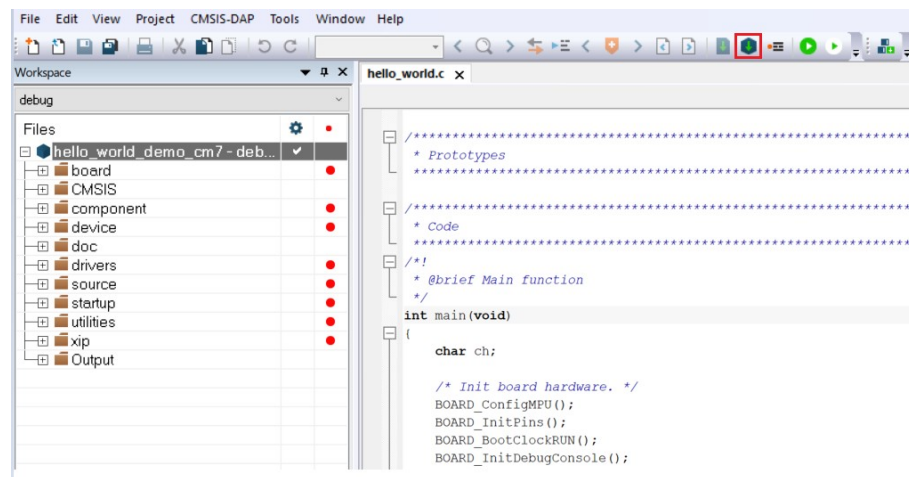

Figure 23. Build the demo application
3. To build the demo application, click Make, highlighted in red in Figure 23.